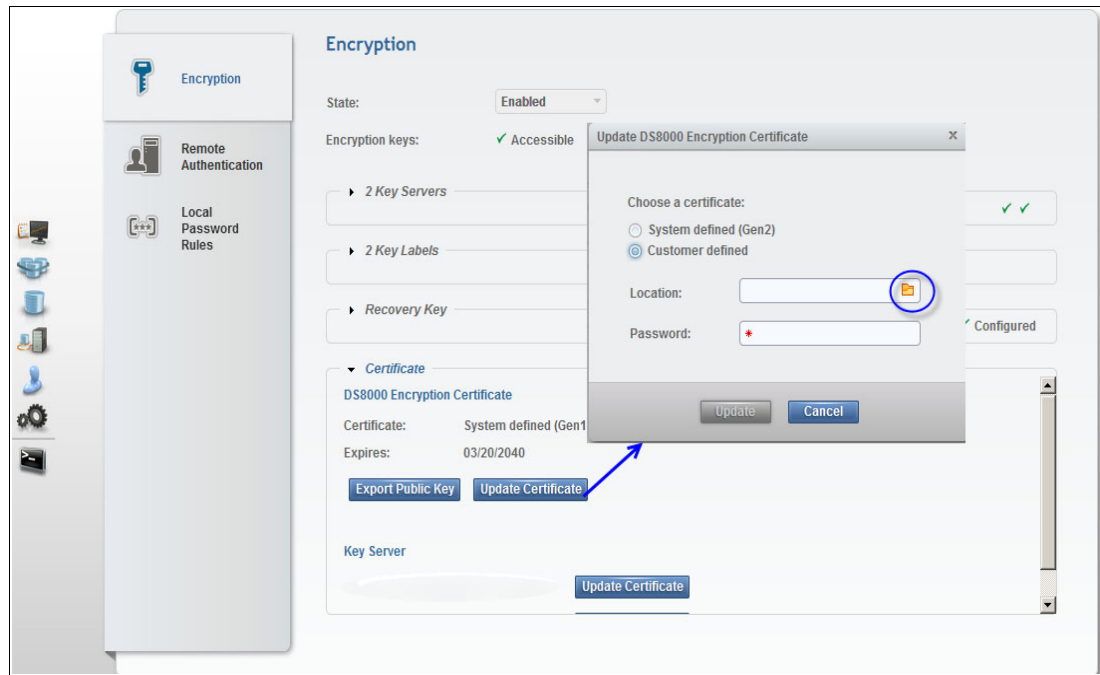

Figure 11-15 Encryption Settings Update Certificate
3. In the Customer defined window, click the file folder to specify the location of certificate and enter your password as shown in Figure 11-15.